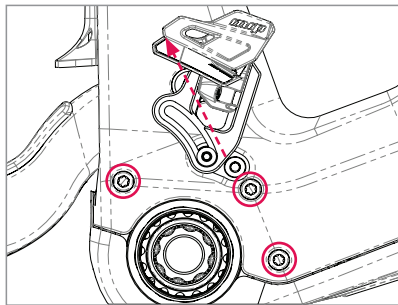

Figure 13
4. Gain access to all six Drive Unit mounting screws by removing the front screw, and loosening the rear screw that fix the chainguide to the frame using a 3 mm hex key. Reposition the guide as shown and gently tighten the rear screw just enough to hold the chainguide in place. This will allow access to the middle DU mounting screw on the driveside of the bike (Fig. 13).